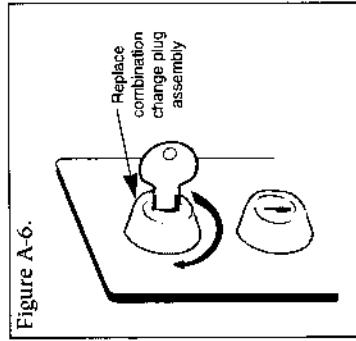

Figure A-6.
8. Replace the combination change plug assembly by screwing it in clockwise with the key — do not overtighten (see Figure A-6). Remove the key and store it in a secure area with these instructions and the spanner wrench.